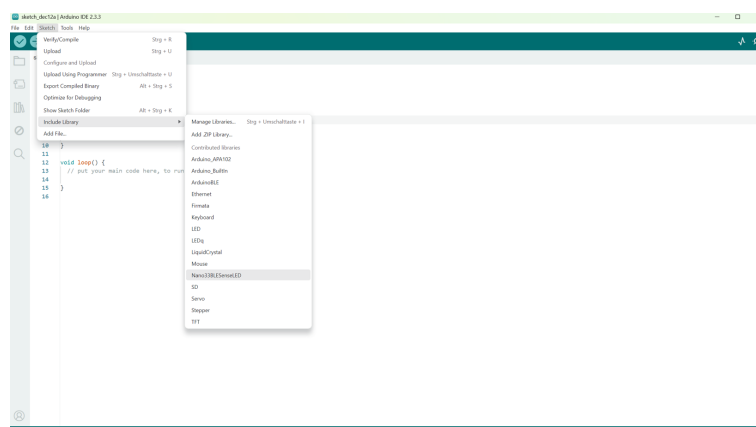

Figure 2.14.: Including the Nano33BLESenseLED Library
2. Check the Library Menu: Navigate to `Sketch` go to `Include Library` and select the Library `Nano33BLESenseLED`, as seen in Figure 2.14